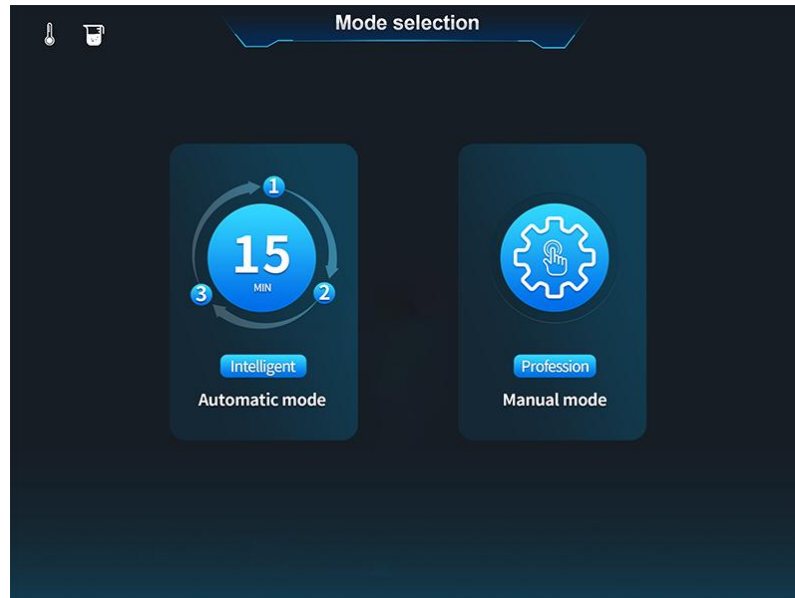

Figure 1
1、 After the physiotherapy device is powered on, and after self-checking, it will enter the mode selection interface. As shown in Figure 1. top left  for temperature and coolant (pure water) status. When the temperature of a part of the physiotherapy device is too high or the temperature sensor is faulty, the temperature icon is displayed in red; when the physical therapy device lacks coolant (pure water) or the cold line is faulty, the coolant status icon is displayed in red. (Note: The temperature and coolant status display on subsequent pages are the same as above)